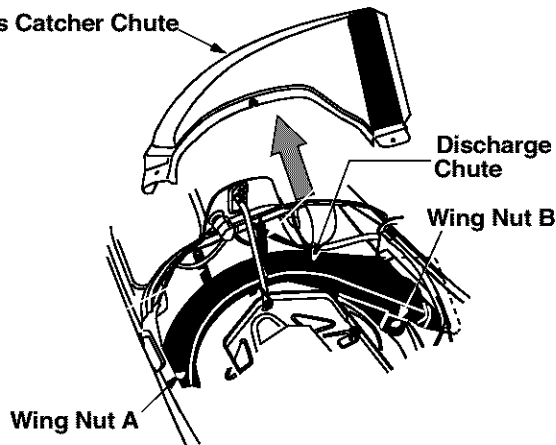

Figure 4
- Remove the two wing nuts (A and B in Figure 4) from two ends of the grasscatcher chute.